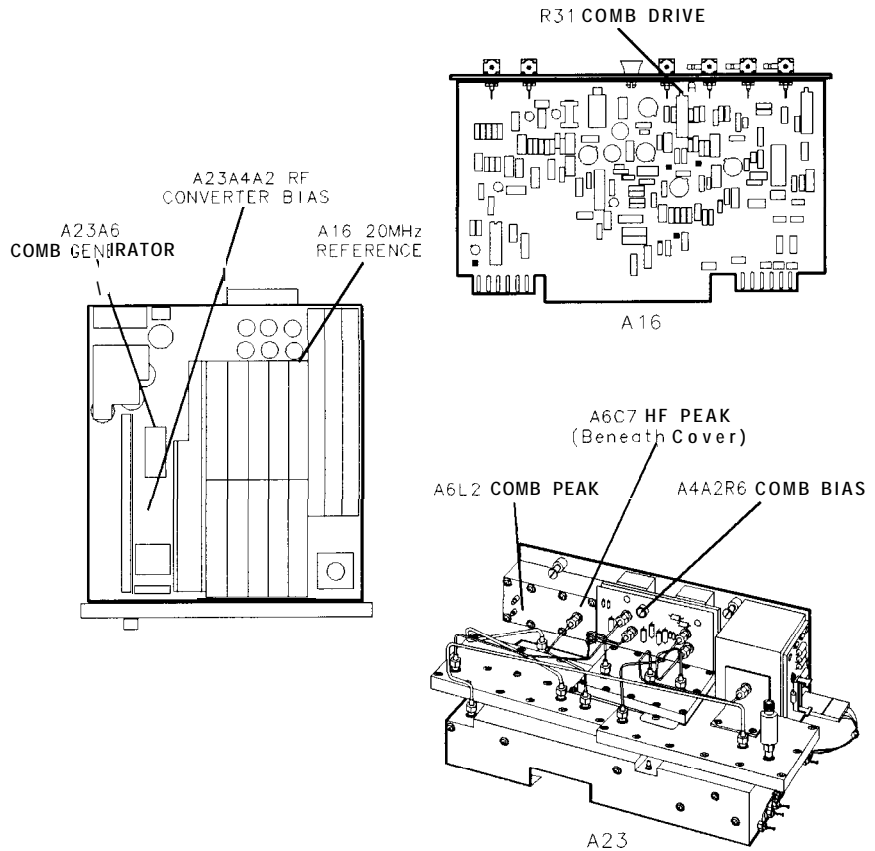
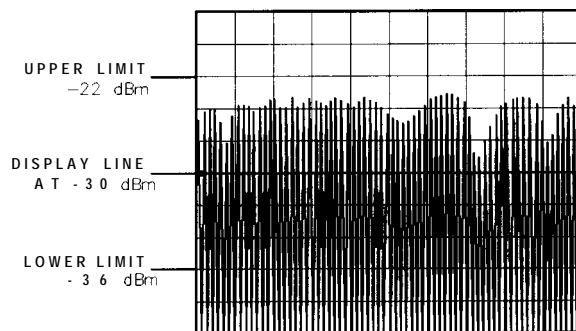

Figure 3-83. Location of Comb Generator Adjustments
Figure 3-84. Comb Teeth Display
12. Adjust A16 COMB DRIVE A16R31 for peak amplitude of CRT trace until comb teeth begin to “wobble.” Then adjust COMB DRIVE A16R31 slightly counterclockwise until the lowest comb tooth (near START frequency) just begins to fall. See Figure 3-84 for a typical comb tooth display. See Figure 3-83 for location of adjustments.
13. Adjust COMB BIAS A23A4A2R6 for peak amplitude of CRT trace until comb teeth begin to “wobble. ” Then adjust COMB BIAS A23A4A2R6 slightly counterclockwise until the lowest comb tooth (near START) frequency) just begins to fall. See Figure 3-84 for
a typical comb tooth display. See Figure 3-83 for location of adjustments.
16. Adjust A23A6 COMB PEAK A23A6L2 for maximum amplitude of comb teeth. See Figure 3-83 for location of adjustment.
18. Adjust A23A6 HF PEAK A23A6C7 for maximum amplitude of the highest-frequency comb tooth displayed (comb tooth to far right of CRT). See Figure 3-84 for location of adjustment.